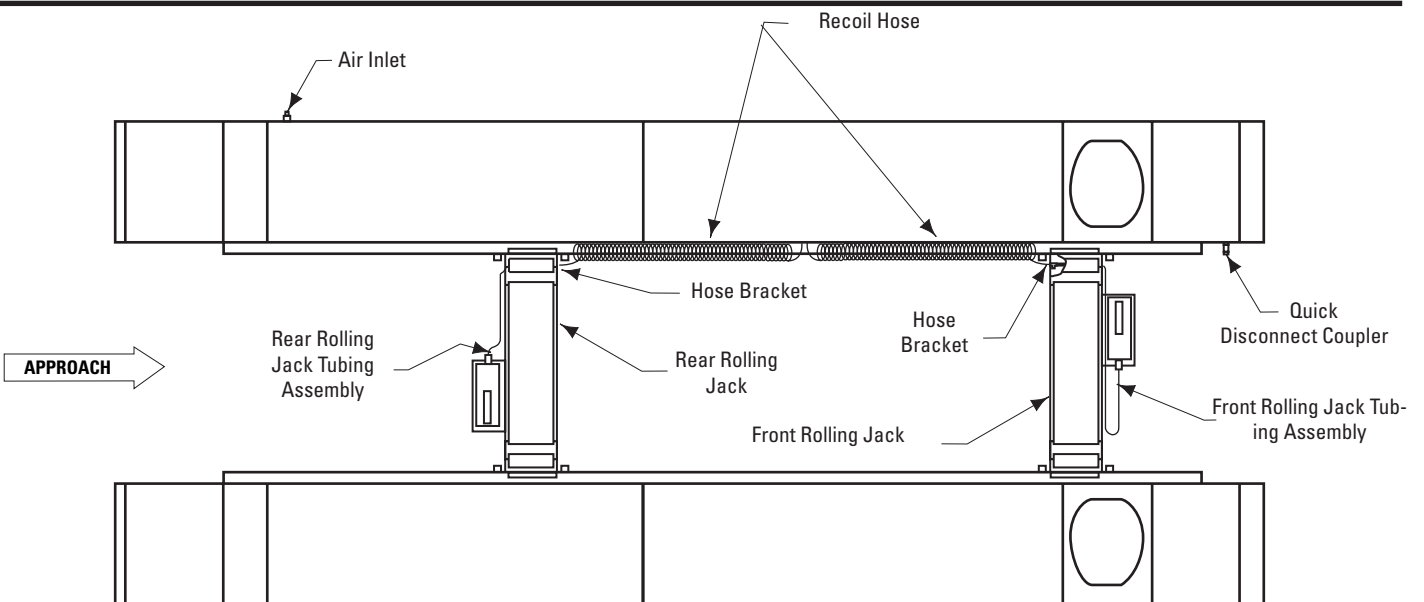

Fig. 29
18. Rubber Stop: Install (2) rubber stops in 1/2" holes 83" from front of runways. Attach using 1/4" Bolt, and Flanged Nut, Fig. 29. Attach (2) additional rubber stops 133" from front of runway on **000/006/010/016 Series lifts**. Attach 167-1/2" from front of runway for **001/007/011/017 Series lifts**.
This lift is equipped with an internal airline that provides air to both rolling jacks and extra access point for air driven tools (Quick Disconnect Coupler), Fig. 29. All internal air lines are factory assembled.